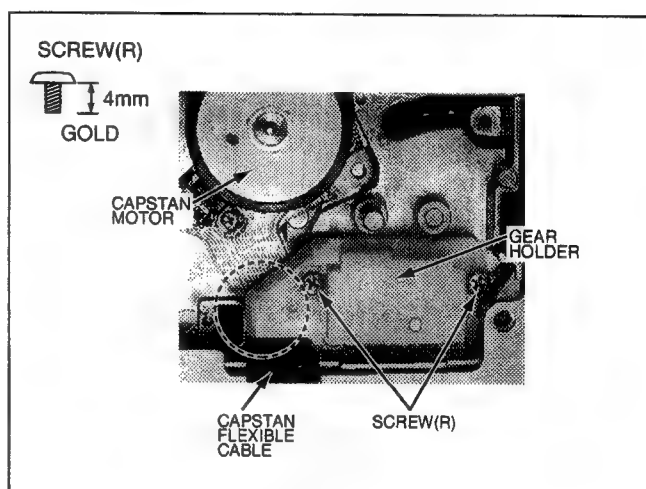

Fig. M-30
- Fig. M-30 Unscrew 2 screws (R) and remove the Gear Holder.
- Fig. M-30 When installing the Gear Holder, confirm the position of the flexible cable of the Capstan Motor.